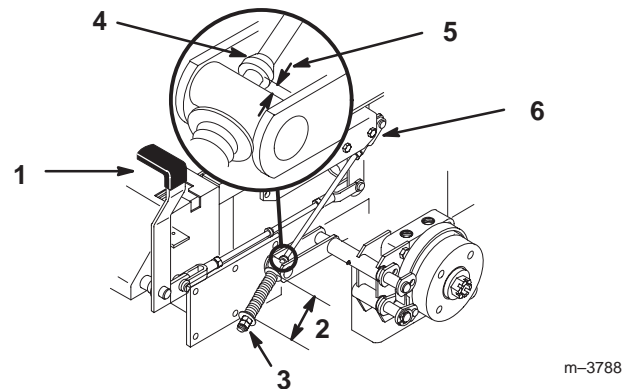

Figure 58
2. Measure the length of the spring. Measurement should be 2-3/4 inch (70 mm) between washers (Fig. 58).
3. If adjustment is necessary, loosen the jam nut below the spring and tighten the nut directly below the yoke (Fig. 58). Turn the nut until the correct measurement is obtained. Tighten the two nuts together and repeat on opposite side of unit.
6. Measure the distance between the trunnion roller and the collar on brake rod. Measurement should be 3/16-1/4 inch (5-7 mm) (Fig. 58).
7. If adjustment is necessary, loosen the jam nut directly below the yoke. Turn the bottom rod until the correct measurement is obtained (Fig. 58). Tighten jam nut at yoke.